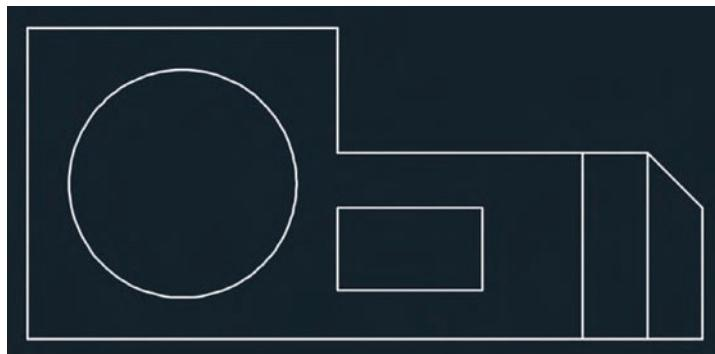

FIGURE 3.17 Completed mechanical part
8. Type @1', -6 (or @280, -160 for metric) and press Enter. The rectangle and drawing is complete (see Figure 3.17).